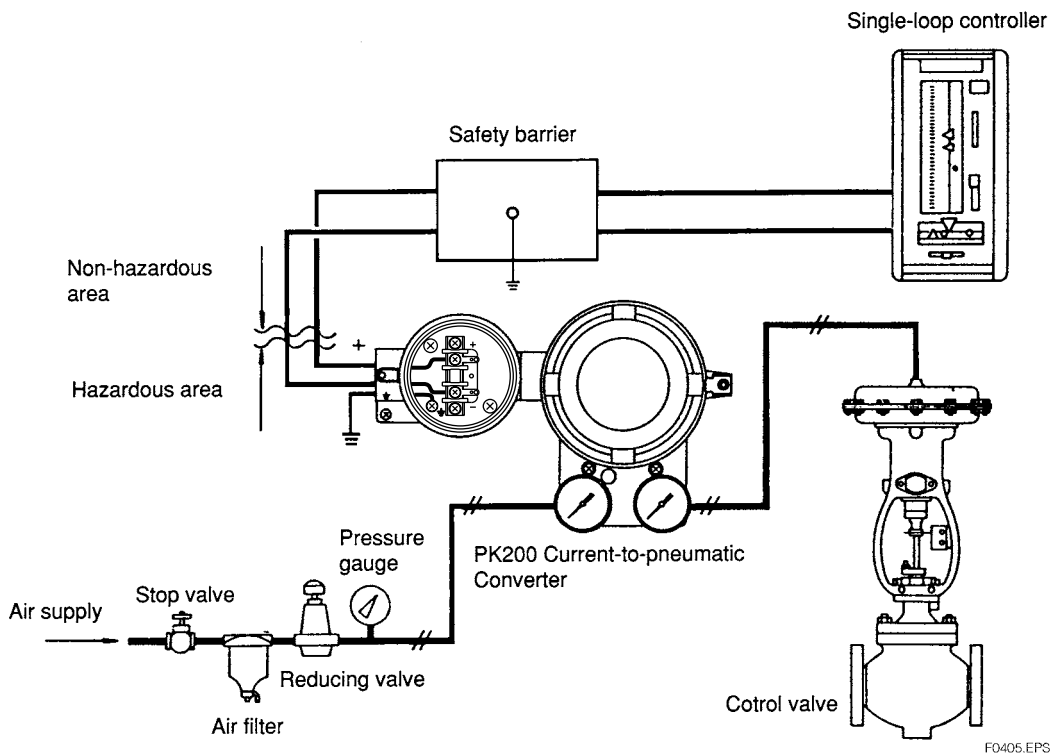

Figure 4.5 Intrinsically Safe Type Wiring
- b. Install wiring using insulated wires and provide a compound filling chamber of inorganic material by using sealing dams. (See Figure 4.5.)